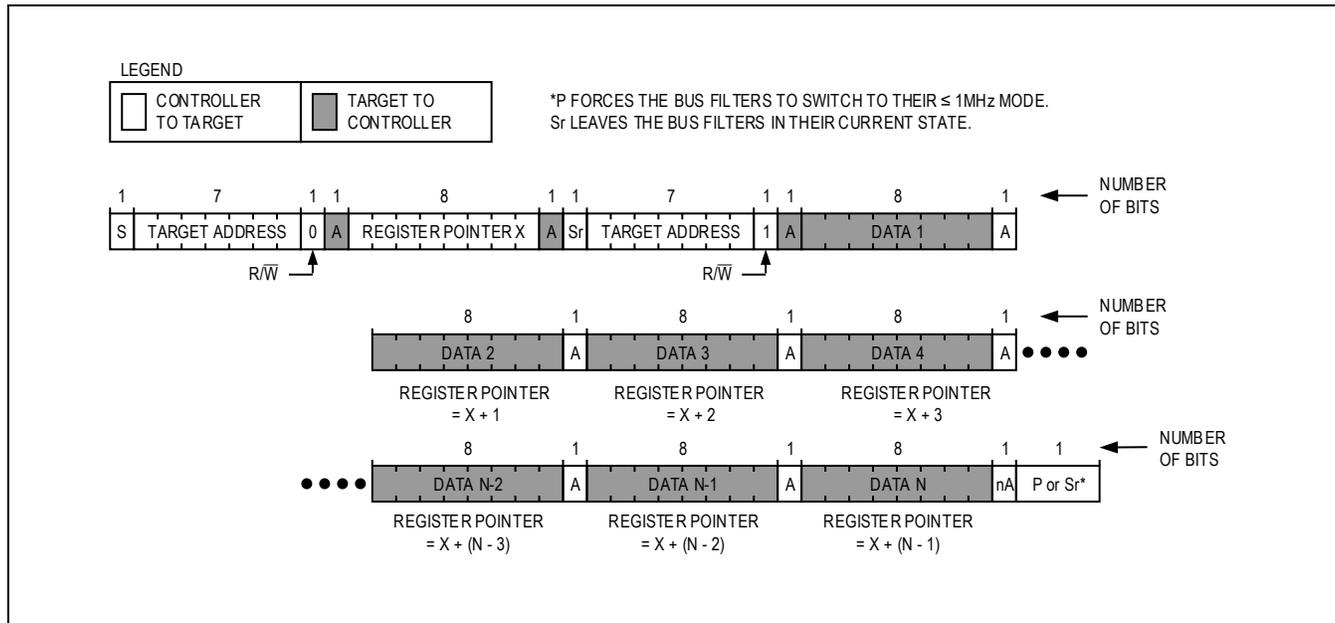

Figure 15. Reading from Sequential Registers
Figure 15 shows the protocol for reading from sequential registers. This protocol is similar to the “Read Byte” protocol, except the controller device issues an ACKNOWLEDGE (A) to signal the target device that it wants more data. When the controller device has all the data it requires, it issues a NOT-ACKNOWLEDGE (nA) and a STOP condition (P) to end the transmission.